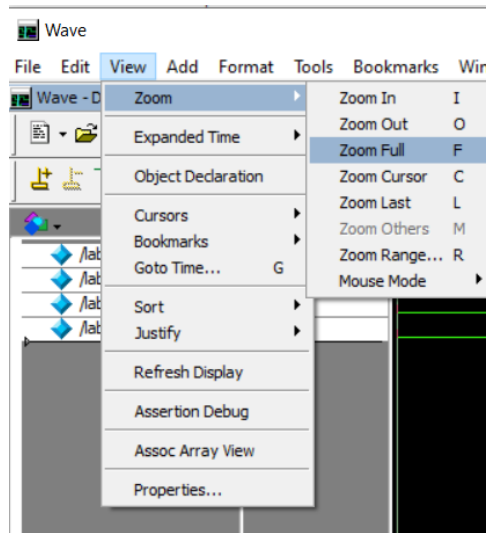
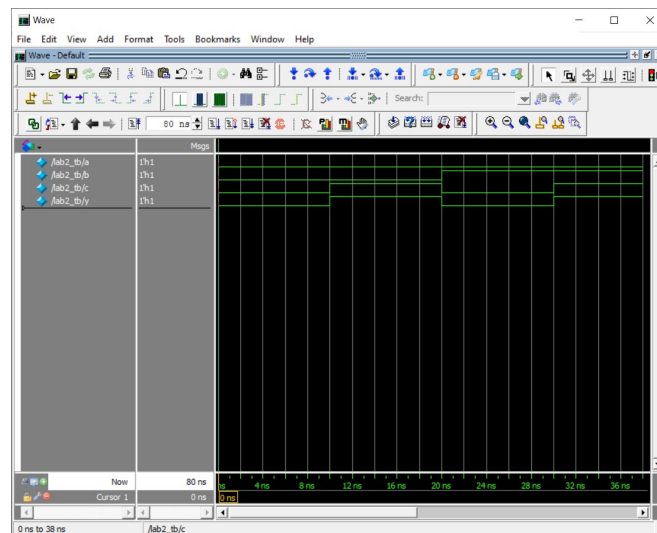

Fig. 2.13: Zoom to view entire waveform.
Fig. 2.14: Output wave-forms of the logic circuit.
- Click on *Run*. The simulation waveform will appear on the screen. Go to the *View* tab, click *Zoom* and select *Zoom Full* (Fig. 2.13) to view the output of *y* for all the various inputs (Fig. 2.14).